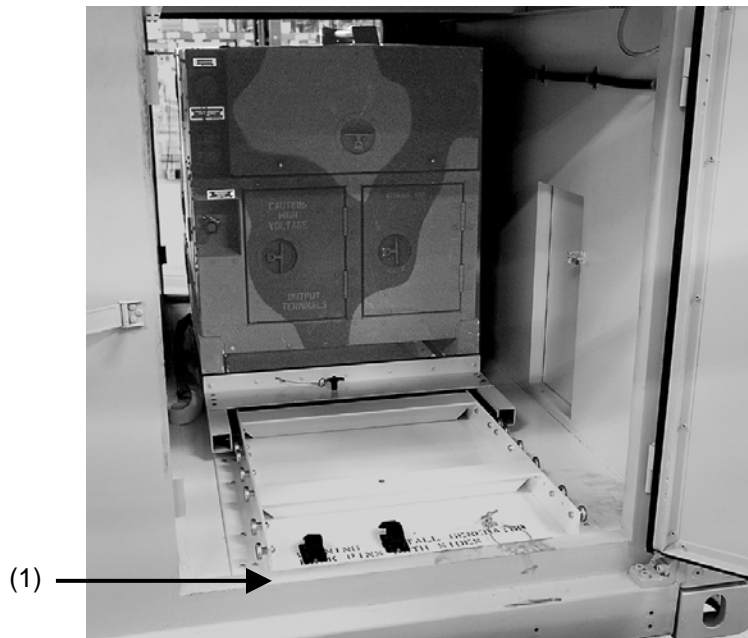

Figure 4-19. View of mechanical room showing generator slide and casters.
1. Locate caster(s) (1) needing replacement (Fig. 4-19).